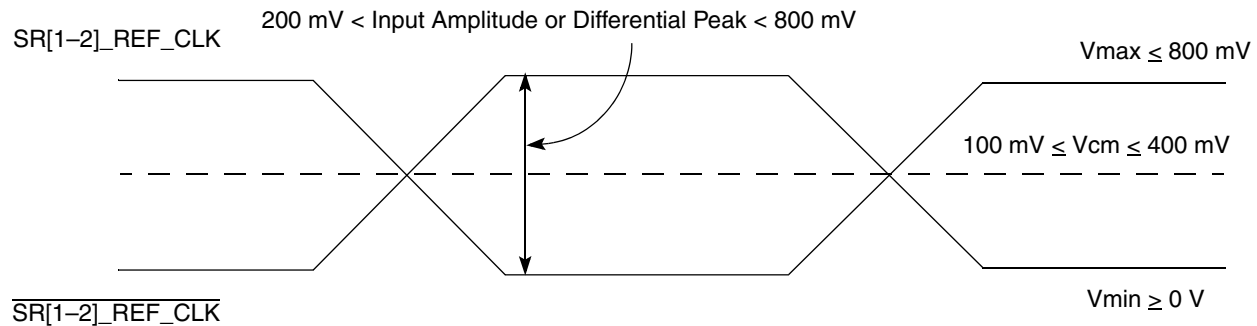

Figure 7. Differential Reference Clock Input DC Requirements (External DC-Coupled)
- For an external DC-coupled connection, the maximum average current requirements sets the requirement for average voltage (common mode voltage) as between 100 mV and 400 mV. Figure 7 shows the SerDes reference clock input requirement for DC-coupled connection scheme.